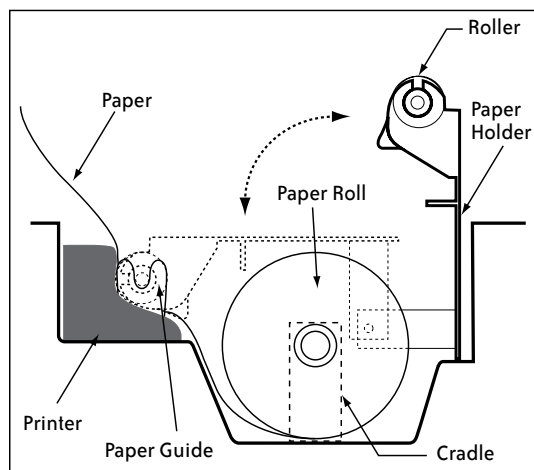

Figure 2.6.4C—Diagram of the FP35 fixed head printer.
5. While holding loose end of paper above printer, lay the full roll into the printer assembly cradle. Ensure that the paper roll is oriented properly with the loose paper coming out the bottom of the roll. See figure 2.6.4C.